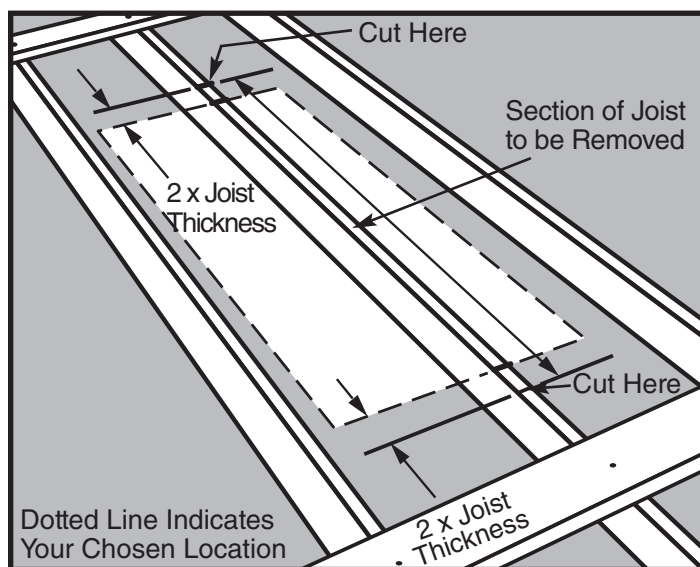
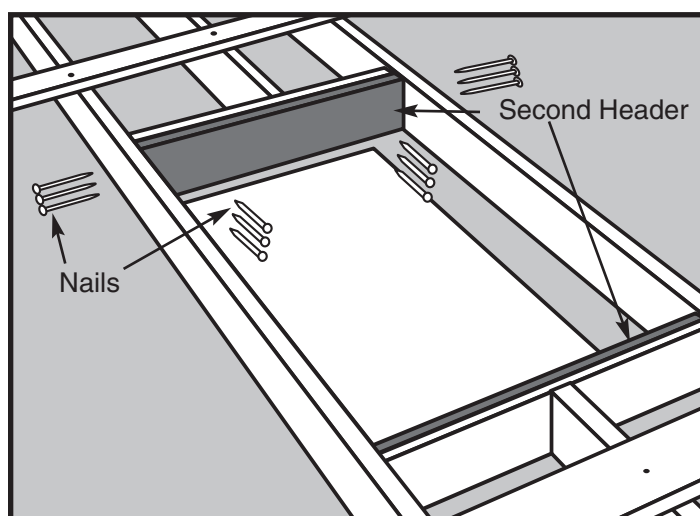

Figure 10
Figure 16
STEP 4. Determine where the joist(s) should be cut. Figure 10 shows where to mark the joist(s) that span your chosen location. Note that the joist(s) should be marked back from the edge of your location a distance of 2 times the joist thickness (usually three inches). This leaves room for two joist-sized headers to be placed against each end of the cut joist(s) (See Figure 16 on page 19).
- STEP 6.** Place a second header against the first header and nail it to the first header with (3) 16d nails between each joist (See Figure 16).
- STEP 7.** Drive (3) 16d nails through the joists into each end of the second header (See Figure 16).